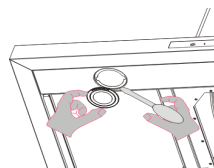

Fig. 4.1
Light replacement (Fig. 4.1, 4.2)
- Push out the light assembly using a small straight screwdriver as illustrated in (Fig. 4.1)